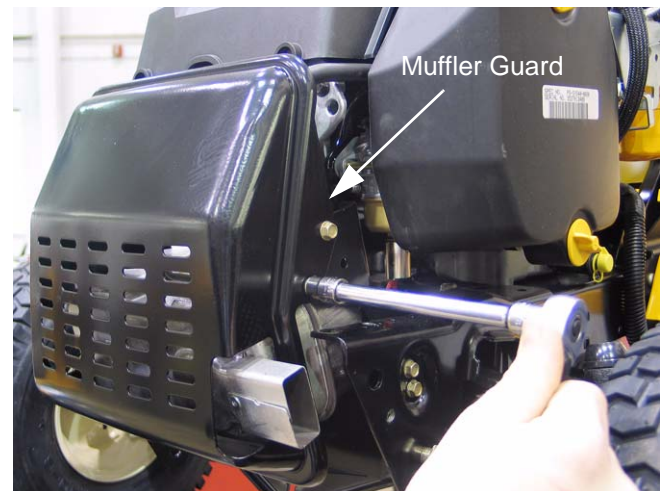

Figure 9.8
9.8. Remove the four screws in the sides of the muffler guard. Slide the muffler and muffler guard off of the exhaust pipe(s). See Figure 9.8.